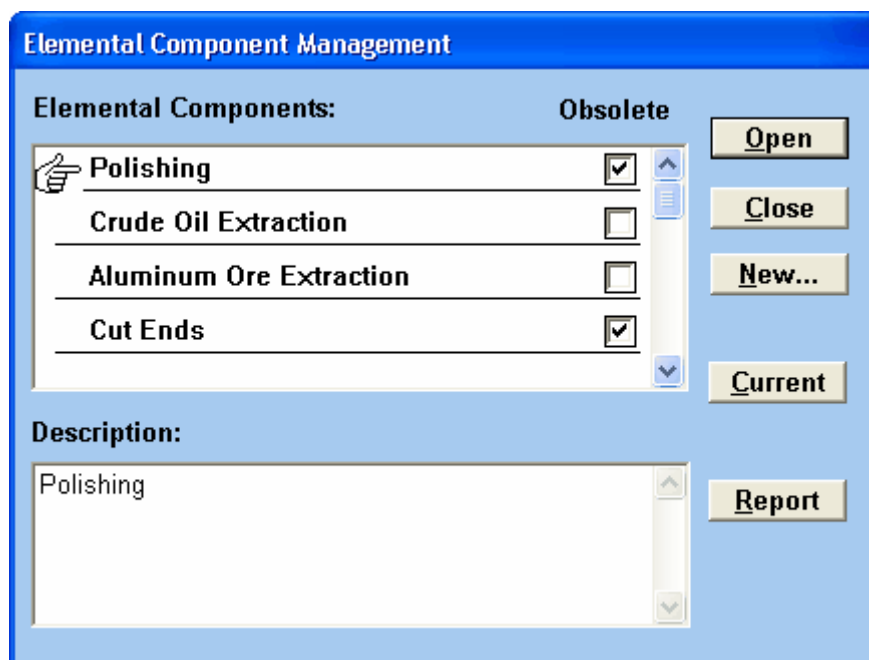

Figure 21: Window listing the Elemental Component Processes available in the LCAPIX library, and options to add more ECP's.
3. This will launch a window called *Select an Elemental Component* as shown in Figure 21. This window lists all the Elemental Component Processes that are available in the LCAPIX Elemental Component Library. Products and higher level processes can only be built on these processes if calculations are to be done, because data is available to the LCAPIX Module only for these processes. Choose **NEW**.
5. You will return to the window shown in Figure 21, but with the newly added Elemental Component Process "Practice-Spray Painting" listed and highlighted. Choose **OPEN** to add information about this ECP.